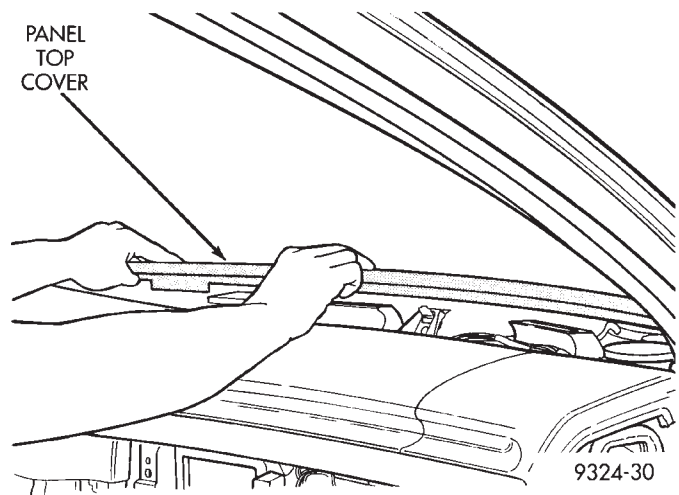

Fig. 3 Panel Top Cover
(14) Remove center console from vehicle (if equipped).
(15) If the vehicle is equipped with a right side air bag, the glove box must be lowered. The glove box assembly can be lowered by pressing in on the sides of the glove box. This will release the glove box and allow access to air bag mounting screws. There are four screws located behind the glove box. Remove these screws and then close the glove box.
(16) Remove lower bolster retaining screws.
(17) Carefully lower the bolster and disconnect the trunk release and glove box light wiring. Then remove the lower bolster from the vehicle.
(18) Remove the instrument panel top cover (Fig. 3). It is held in place by retainer clips at both ends of the cover. To remove carefully pry upward at one end of the cover until the clip is disengaged. Proceed to the opposite side and gradually pry the rear edge of the top cover along the entire width of the panel.
(19) Remove right and left windshield "A" pillar trim covers.
(20) Remove five bolts that hold instrument panel to the cowl. These bolts are located at the base of the windshield.
(21) Disconnect the DRB II scan tool connector from brace.
(22) Remove instrument panel ground strap. This strap is located on the lower left side of the center console.
(23) Remove left knee blocker support bracket. This will allow access to the 60 way wiring connector.
(24) Remove under column duct and left floor duct.
(25) Disconnect 60 way wiring connector. Then disconnect all related wiring connectors.